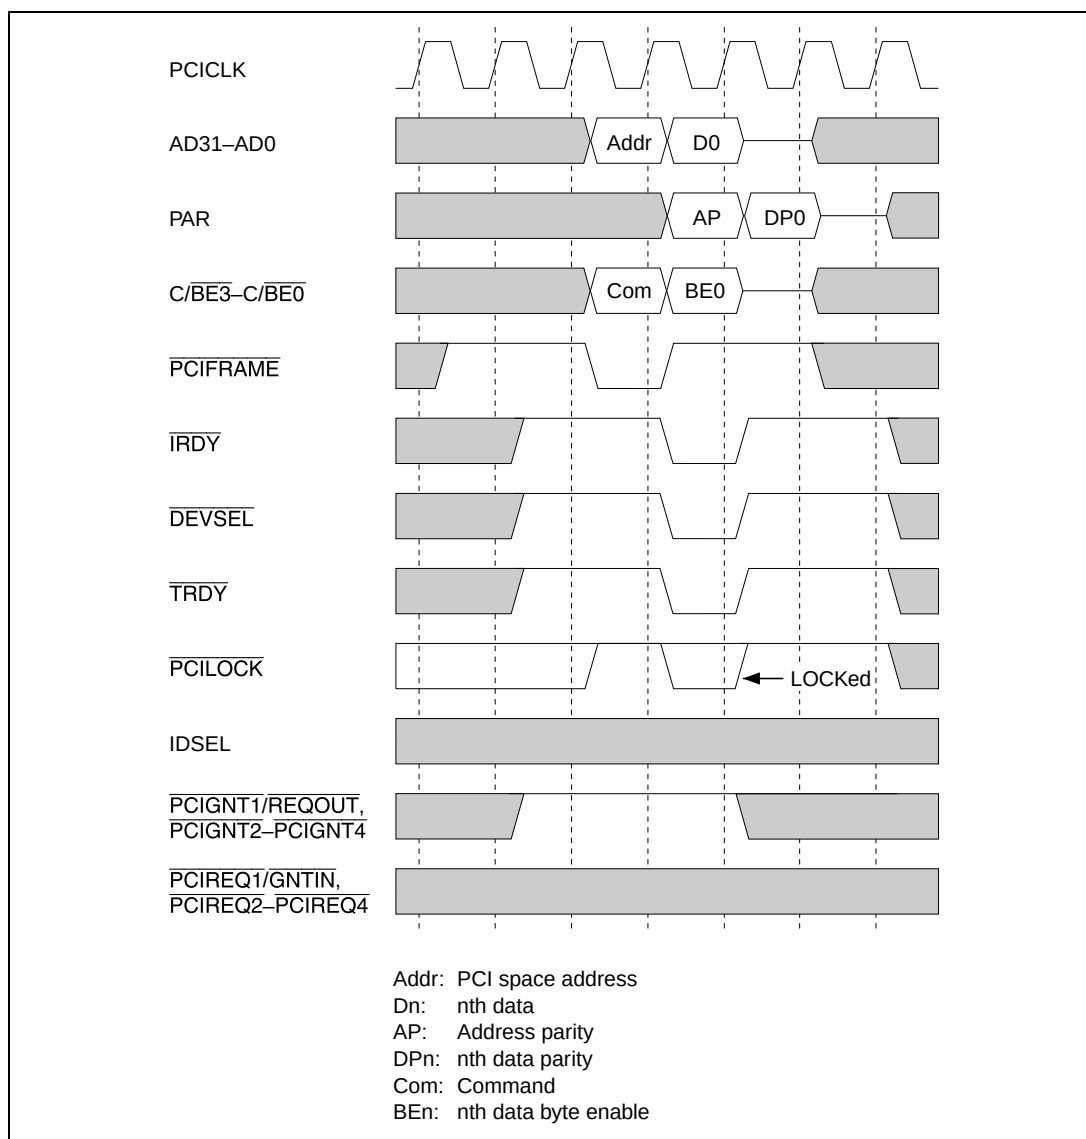
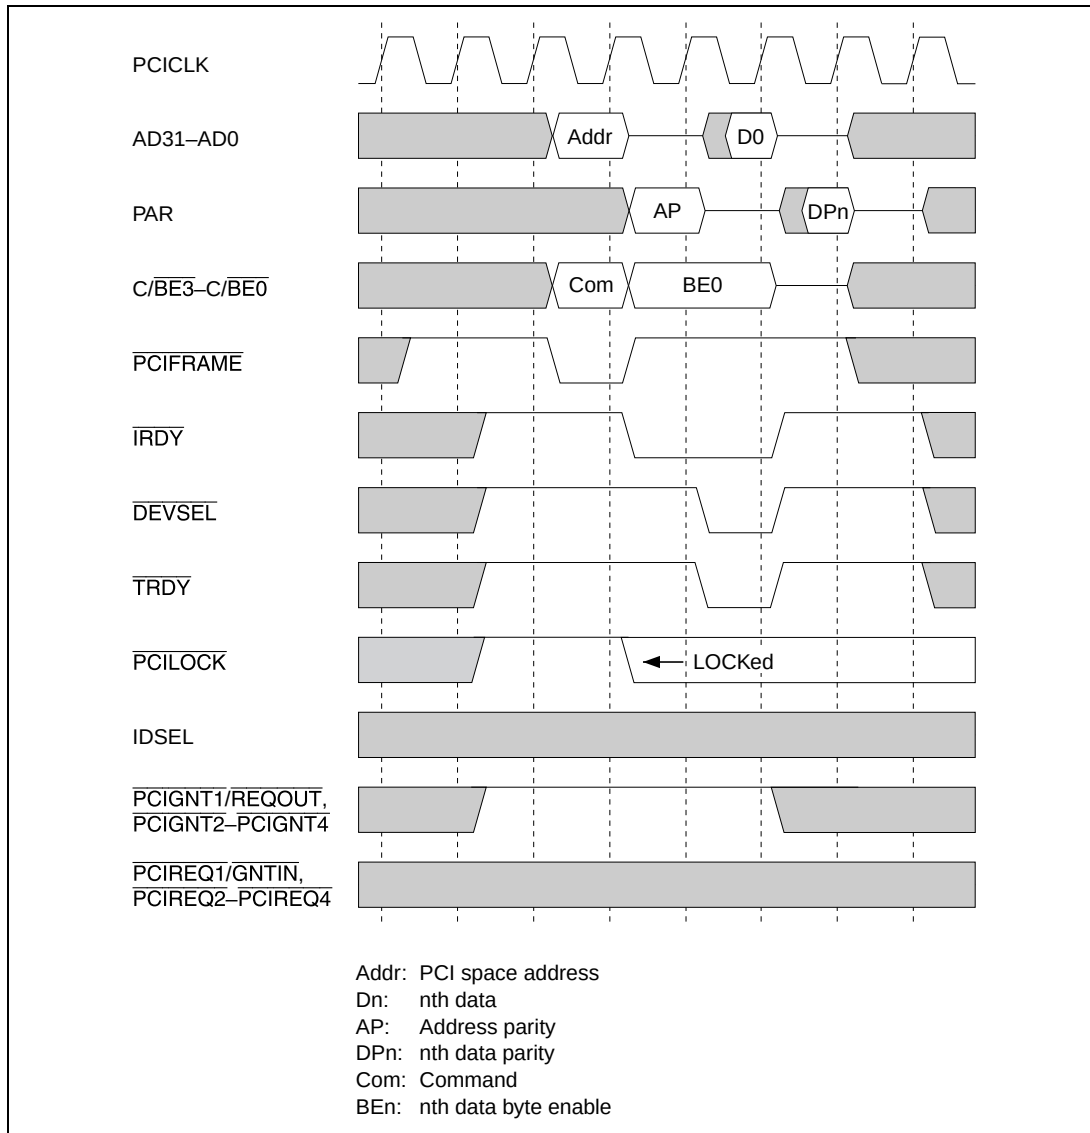
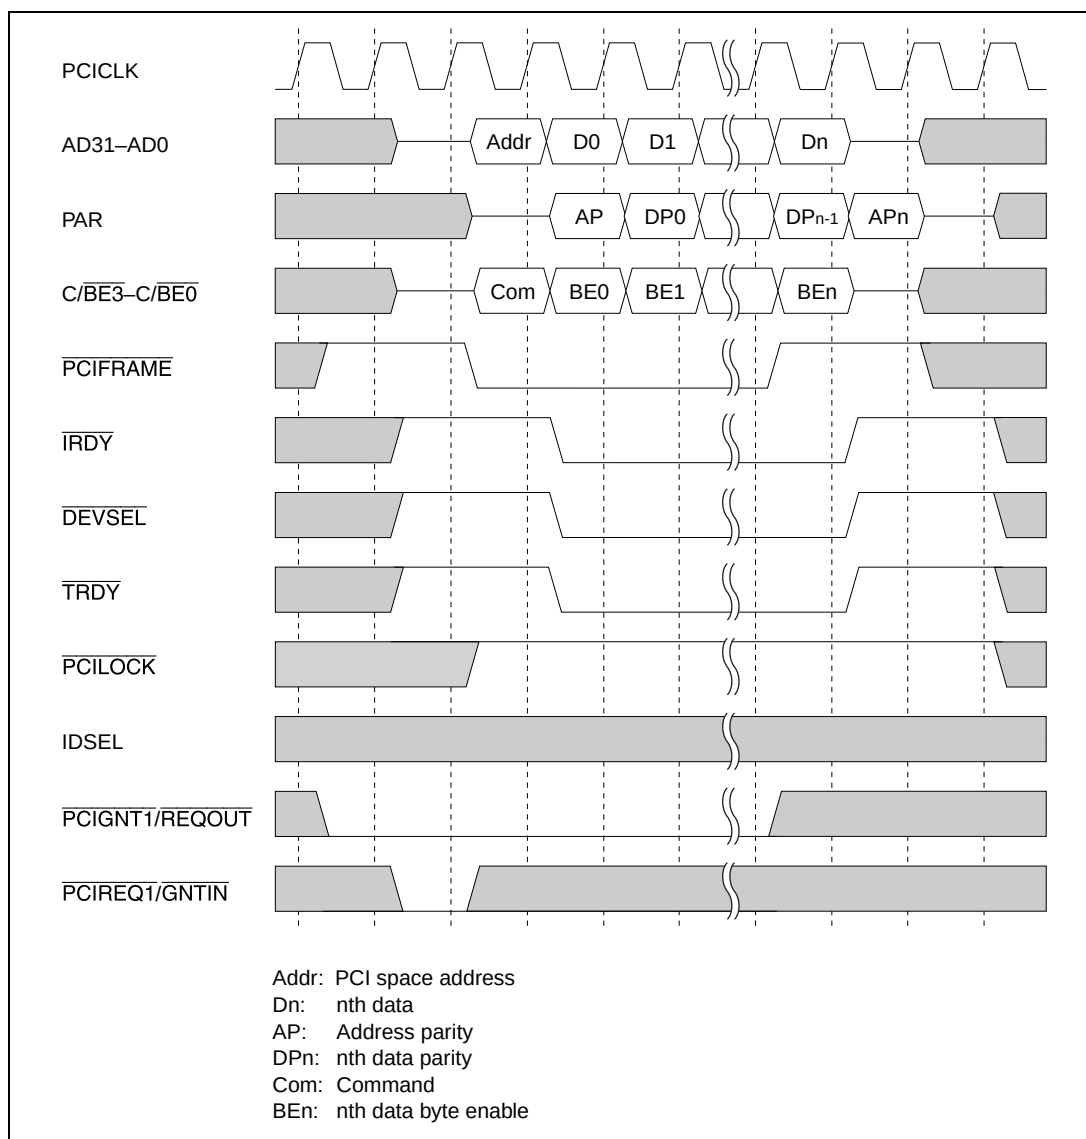
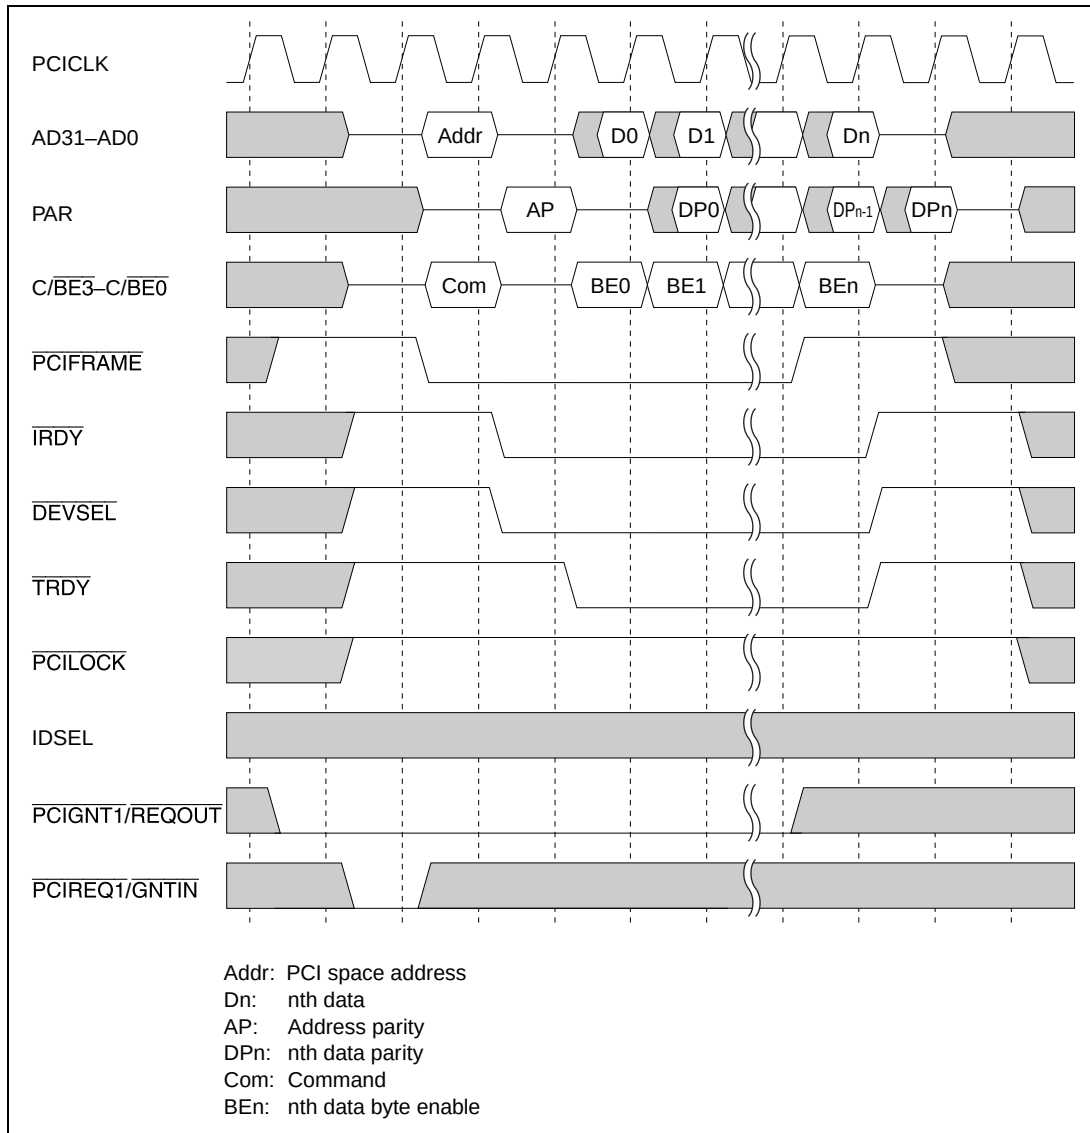

**Figure 22.7 Master Write Cycle in Host Mode (Single)**
**Figure 22.8 Master Read Cycle in Host Mode (Single)**
**Figure 22.9 Master Memory Write Cycle in Non-Host Mode (Burst)**
**Figure 22.10 Master Memory Read Cycle in Non-Host Mode (Burst)**
**Master Read/Write Cycle Timing:** Figures 22.7 is an example of a single-write cycle in host mode. Figure 22.8 is an example of a single read cycle in host mode. Figure 22.9 is an example of a burst write cycle in non-host mode. And Figure 22.10 is an example of a burst read cycle in non-host mode. Note that the response speed of  $\overline{DEVSEL}$  and  $\overline{TRDY}$  differs according to the connected target device.